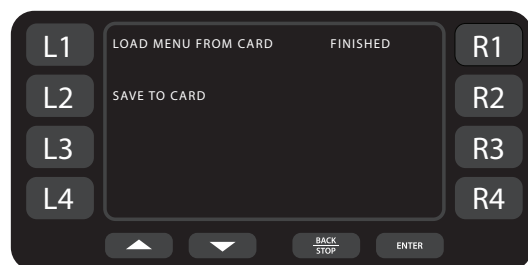

Figure 23: Loading...Finished
2. Press the R1 soft key to access the Load Menu screen (Figure 23).
4. Press the L1 soft key (Figure 23).
4. Press the L2 soft key (Figure 23).